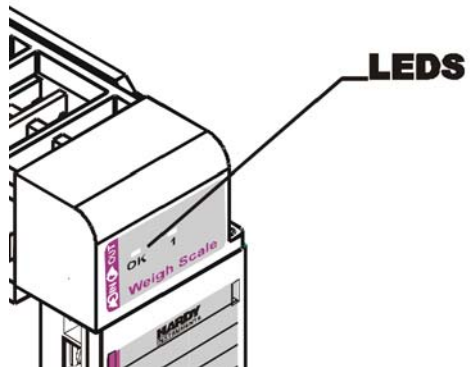

FIG. 4-1 MODULE LEDs HI 1769-WS SINGLE CHANNEL
- Step 2. If there is power to the module, the LEDs should be lit. (See Fig. 4-1 and 4-2)